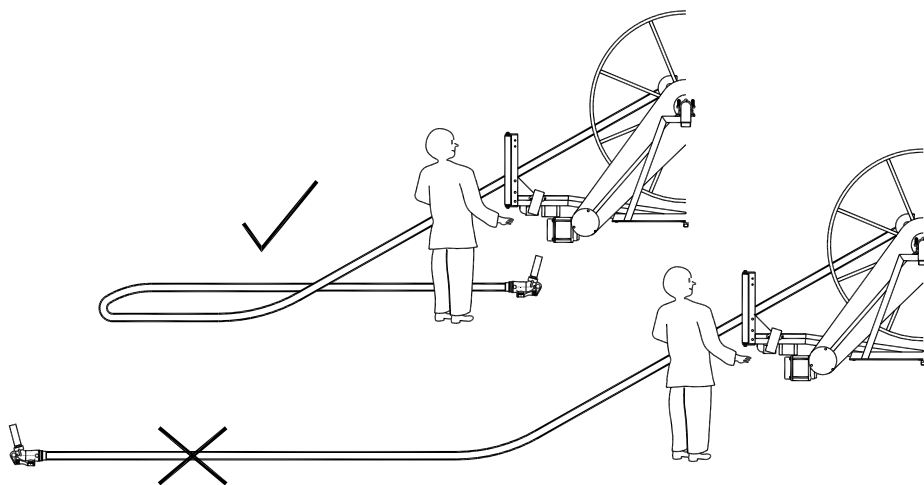

Figure 4 – Rewinding the hose
- 3 *Do not drag the nozzle along the ground at any time, it must be carried back to the hosereel before rewinding the hose, see figure 4.***
- 3.2.1 Return the delivery nozzle to a position adjacent to the hosereel, see figure 4.